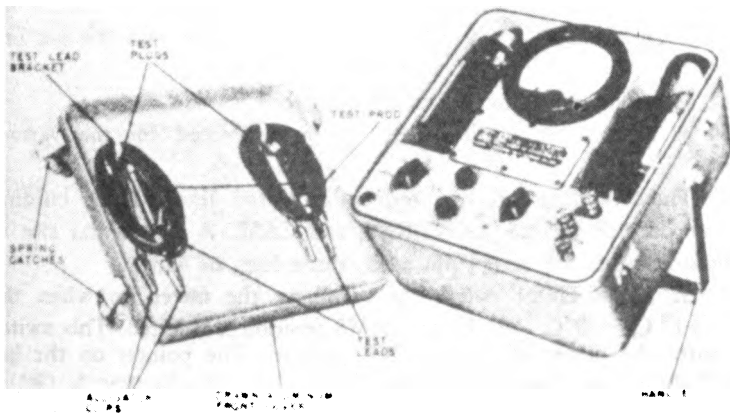

Figure 2. Electronic Multimeter TS-505/U, with handle locked in position.
a. DESCRIPTION OF ELECTRONIC MULTIMETER. (1) Electronic Multimeter TS-505/U is a general purpose a-c (alternating-current) and d-c (direct-current) vacuum-tube voltmeter and a d-c ohmmeter. It is a self-contained unit.
(2) The cover of the multimeter is attached with four spring catches (fig. 2). Two sets of test leads for use with the multimeter are contained in the cover. The handle may be pivoted and locked into position to act as a stand, thus permitting the operator to place the multimeter at a comfortable viewing angle (fig. 2). Six screws are used to attach the rear cover of the multimeter. These screws serve as legs which protect the meter case when it is placed in a horizontal position.
(3) The multimeter is made completely watertight by means of two peripheral rubber gaskets (on the back and on the front of the front panel); by rubber gaskets behind the meter and the battery cover; and by O rings, or washers, behind the potentiometers, the switches, the binding posts, and the pilot light indicator jewel.
(2) Cut the cloth binding which seals the exterior carton in such a manner as to leave the carton undamaged. Open the carton. Remove the inner corrugated box and open it.
(3) Lift the moisture-vaporproof barrier from the carton. Open the side of the carton and pull out the inner carton.
(4) Carefully cut the tape sealing the inner fiberboard box so that the carton will not be damaged. Open the carton. Remove the inner corrugated box and open it.
(5) Remove the cushioning and desiccant from the inner fiberboard box.
(6) Carefully lift the multimeter from the inner carton and place it on a solid table or workbench.
(7) Place the cushioning and the cartons into the outer carton for future use. They can be used again when the multimeter is repacked for storage or shipment (ch. 5).
(8) Check the contents against the master packing slip and against the list of components in paragraph 4. The test leads will be found on the front cover.
c. INSPECTION. (1) Inspect the multimeter thoroughly. Make sure that it has not been damaged in shipment or during unpacking. Inspect the carrying handle to see that it swings freely on the pivot point and will lock in position (fig. 2) to support the meter in an inclined position.
(2) Check the four catches on the front cover. Remove the front cover by unfastening the catches.
(3) The multimeter is shipped with the tubes installed. See that the tubes are seated firmly in their sockets *only if the multimeter is inoperative*. To inspect the tubes, the back cover must be removed. Refer to paragraph 42a for instructions.
(4) If inspection discloses that the multimeter has been damaged, fill out the proper forms and forward them through channels (par. 2).